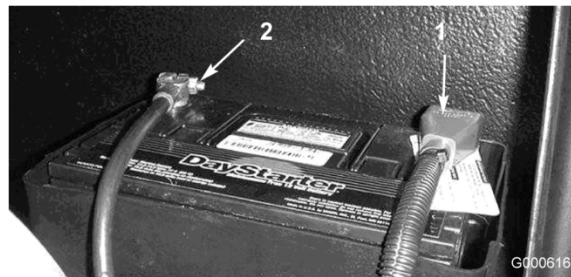

Figure 40
5. Install the positive cable (red) to the positive (+) terminal and the negative cable (black) to the negative (-) terminal of the battery (Figure 40). Secure cables to posts with capscrews and nuts. Make sure that the positive (+) terminal is all of the way onto the post and the cable is positioned snug to the battery. The cable must not contact the battery cover. Slide the rubber boot over the positive terminal to prevent a possible short from occurring.